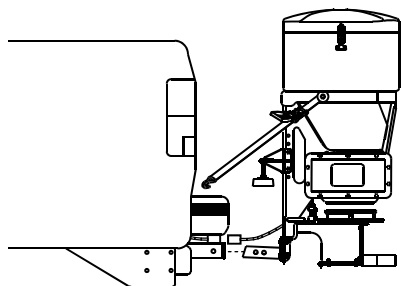

Figure 18
2. Slide the hitch of the spreader into the receiver hitch of your vehicle and line up the second hole on the spreader hitch with the hole in the hitch of your vehicle (Figure 18).